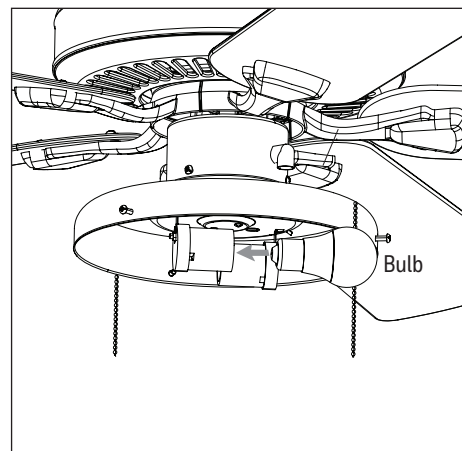

Figure 5.8
- Install the two E26-base LED bulbs (Figure 5.8).